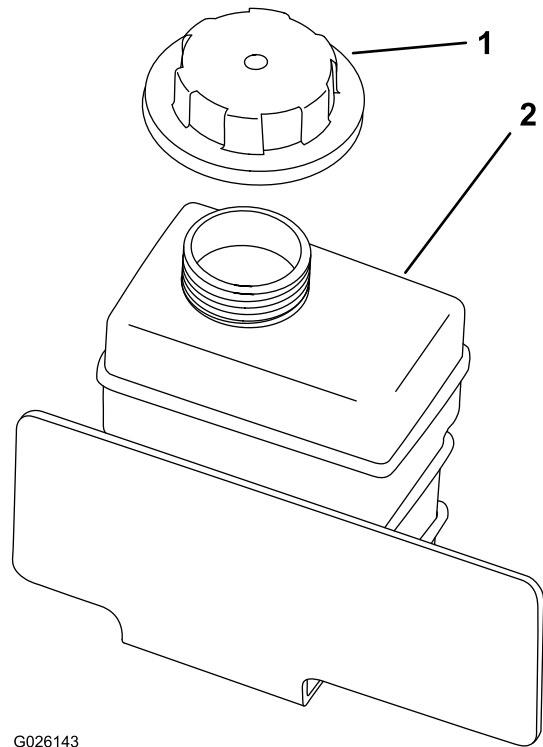

Figure 56
4. Remove the reserve-tank cap (Figure 56).
8. Slowly fill the coolant-reserve tank until level reaches the bottom of the filler neck (Figure 56).
9. Install the reserve-tank cap (Figure 56).